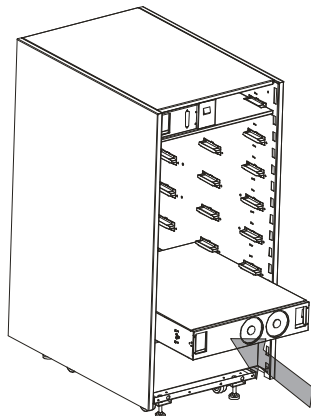
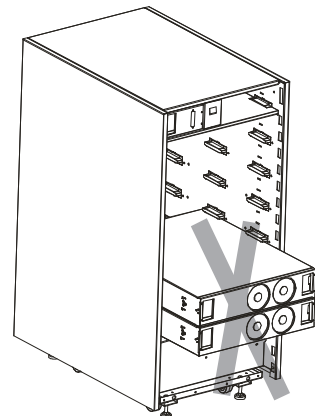

Fig. 7
Fig. 9
- 4) Insert all the UPS-Modules into the bays of the frame one after another. (Refer to Fig.7-Fig.9)